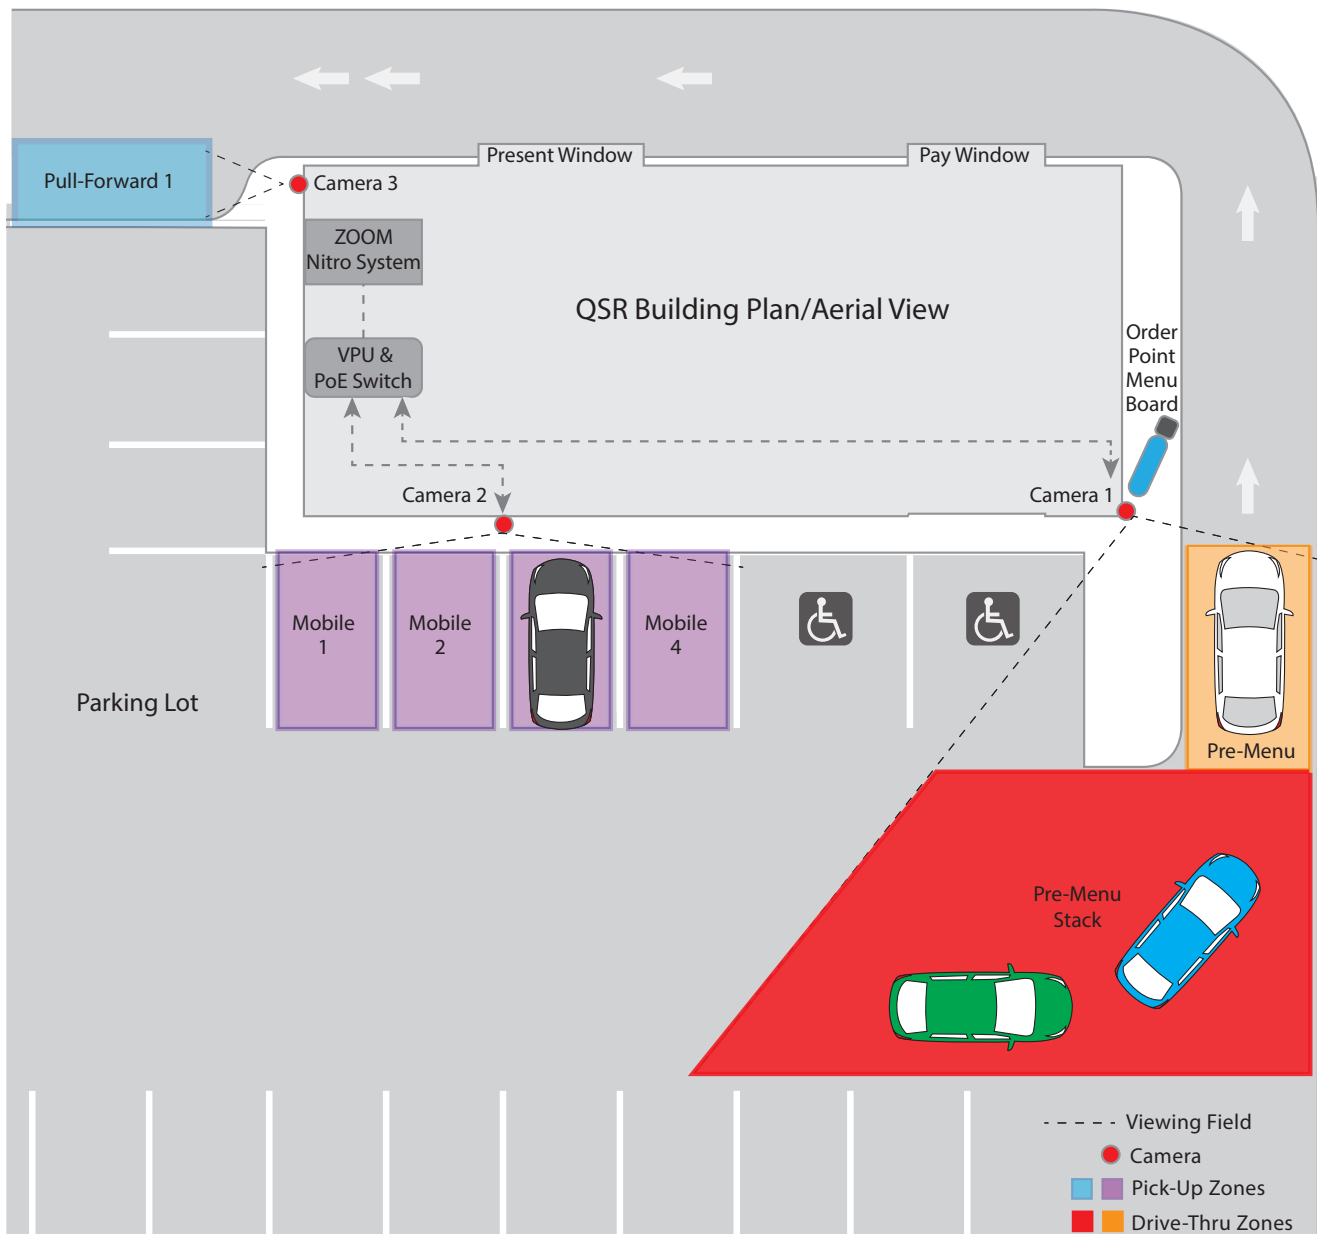

Fig. 1
Cameras are used to detect and track vehicles in a drive-thru or in a mobile space. Fig 1 shows an example of both. Camera 1 tracks cars in the drive-thru, while Camera 2 is used for mobile spaces.
**Pre-Menu Stack:** (The red area in Fig. 1.) This is an area behind the pre-menu where customers can potentially exit the lane and drive off if they decide not to wait.
**Pre-Menu:** (The orange area in Fig. 1.) This is the area where a single car next in line is waiting just before reaching the order point.
**Captured lanes:** These lanes have a physical boundary along the lane, which prevents cars from pulling out of the lane and driving off. These boundaries can be curbs, walls, railings, or hedging. (Fig. 1 has curbs). Captured lanes are also narrow enough so that a car cannot overtake the car in front of it. The only way a car can escape a captured lane is by reversing out of it.
The Blue and Purple areas in Fig. 1. Camera's should be installed to see as many mobile or pull-forward spaces as possible, up to four mobile spaces per camera (eight maximum with two cameras) or up to two full-forward spaces (two maximum) or a combination of both. Cameras should be positioned to view the front or back of these pick-up zones since side views can be problematic due to obstruction issues. For example, a large (tall) vehicle might block the camera's view of a detection zone if the zone is at a distance from the camera with other available parking spaces in between.
- If cars turn as they move first through the Pre-Menu Stack and into the Pre-Menu zone (as in Fig. 1), it is best if the camera is positioned to see cars from the side and from the front.